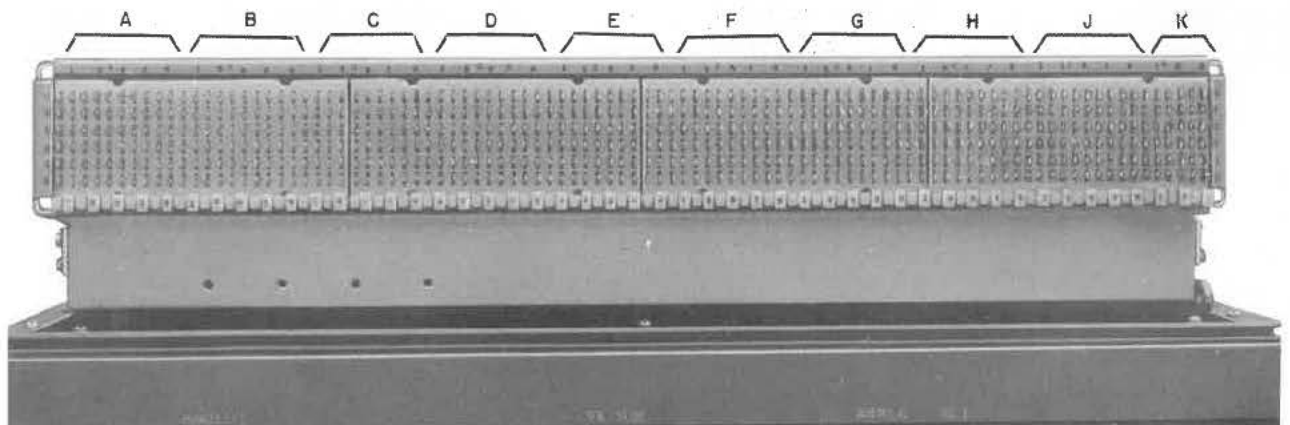

Fig. 8—761B PBX Crown—Vertical Quick-Connect Terminal Field
9.01 Quick-connect terminal blocks are provided in the crown of the switching cabinet for connecting the PBX stations, attendant console, trunks, and remote answer bell. The quick-connect field faces the front of the PBX cabinet as shown in Fig. 8 and 9.